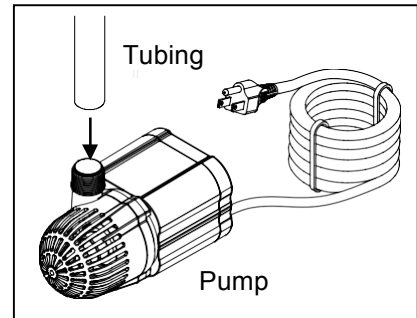

Fig. 1
1. Connect tubing to the outlet of the pump. Fig. 1